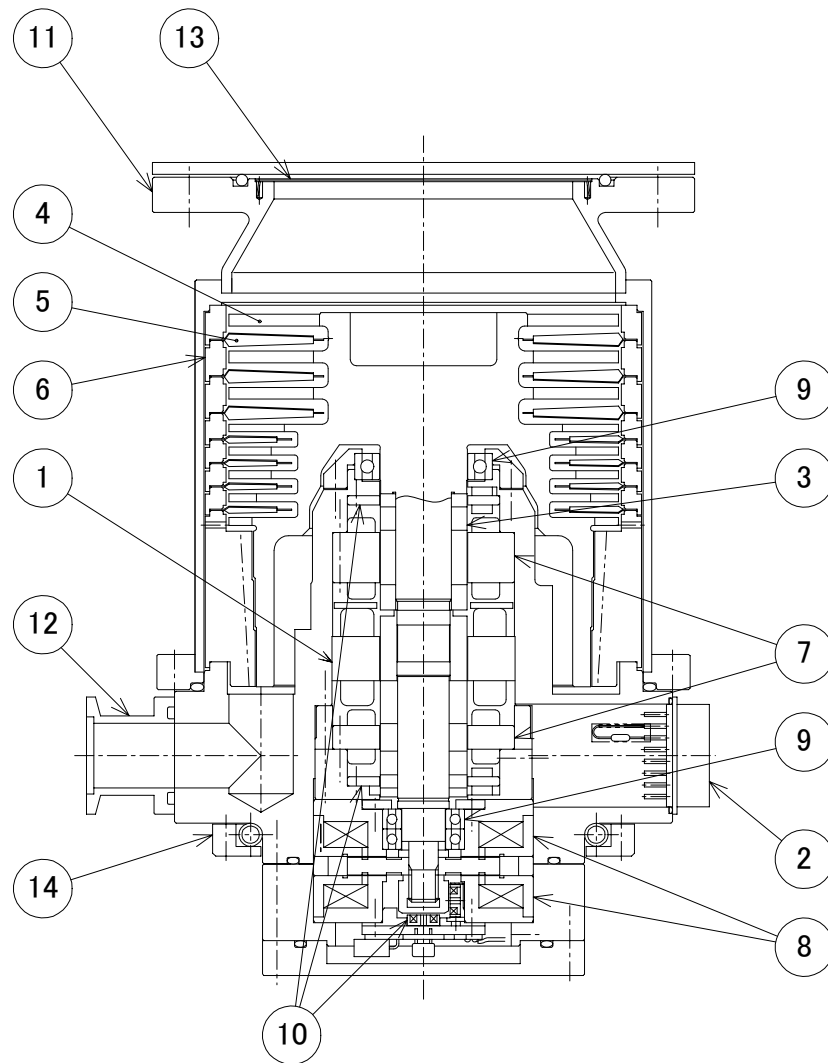

Fig.3-1 Pump Sectional Drawing
Fig. 3-1 is a sectional drawing of the TMP-203LM/LMC, TMP-303LM/LMC and TMP-403LM/LMC magnetic bearing type turbo molecular pump. The built-in high frequency motor (1) is accelerated to the specified revolutions (speed) by the high frequency power supply unit. Rotor blades (4) are fitted onto the drive shaft (3) and the stator blades (5) are arranged in between the rotor blades. A positioning spacer (6) is inserted between the stator blades. The configurations and profiles of the stator blades and rotor blades are designed for high efficiencies in various applications. The upper stages of the rotor blade and stator blade configurations are ideally designed for high gas throughput. The compression ratio of the stator blades and rotor blades becomes higher as the gas molecules converge into the lower stage configurations. The profiles of the stator blades and rotor blades are matched for the desired function.